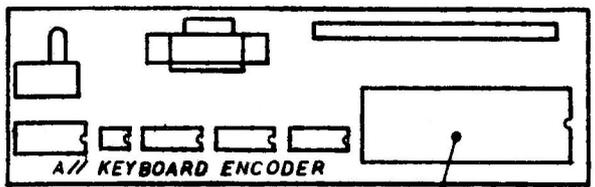

FIGURE 4
- IPL.5 Keyboard Encoder Card (Figure 4)
□ KEYBOARD ENCODER CARD (Figure 4)